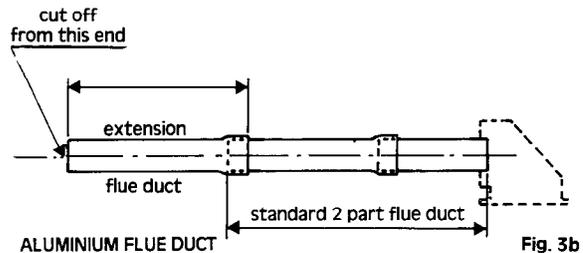

Fig. 3b
- Measure wall thickness (T).
- Add 74 mm, this will give required length (L).
- Mark plastic air duct for length (L) and cut off surplus (from plain end).
- N.B.** If extension sections are used ensure these are firmly pushed together, see figs. 3b and 3c.